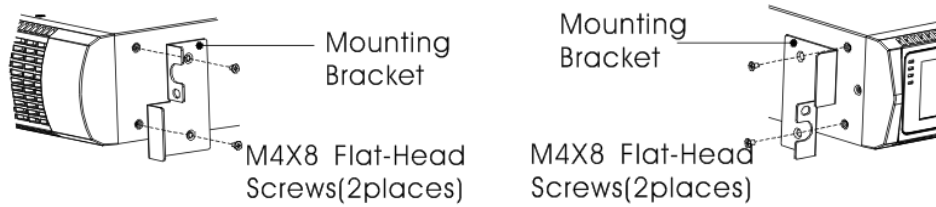

Figure5 Installing the Mounting Brackets
9. Align the mounting brackets with the screw holes on each side of the UPS and fix with the supplied M4×8 flat-head screws(see Figure 5)